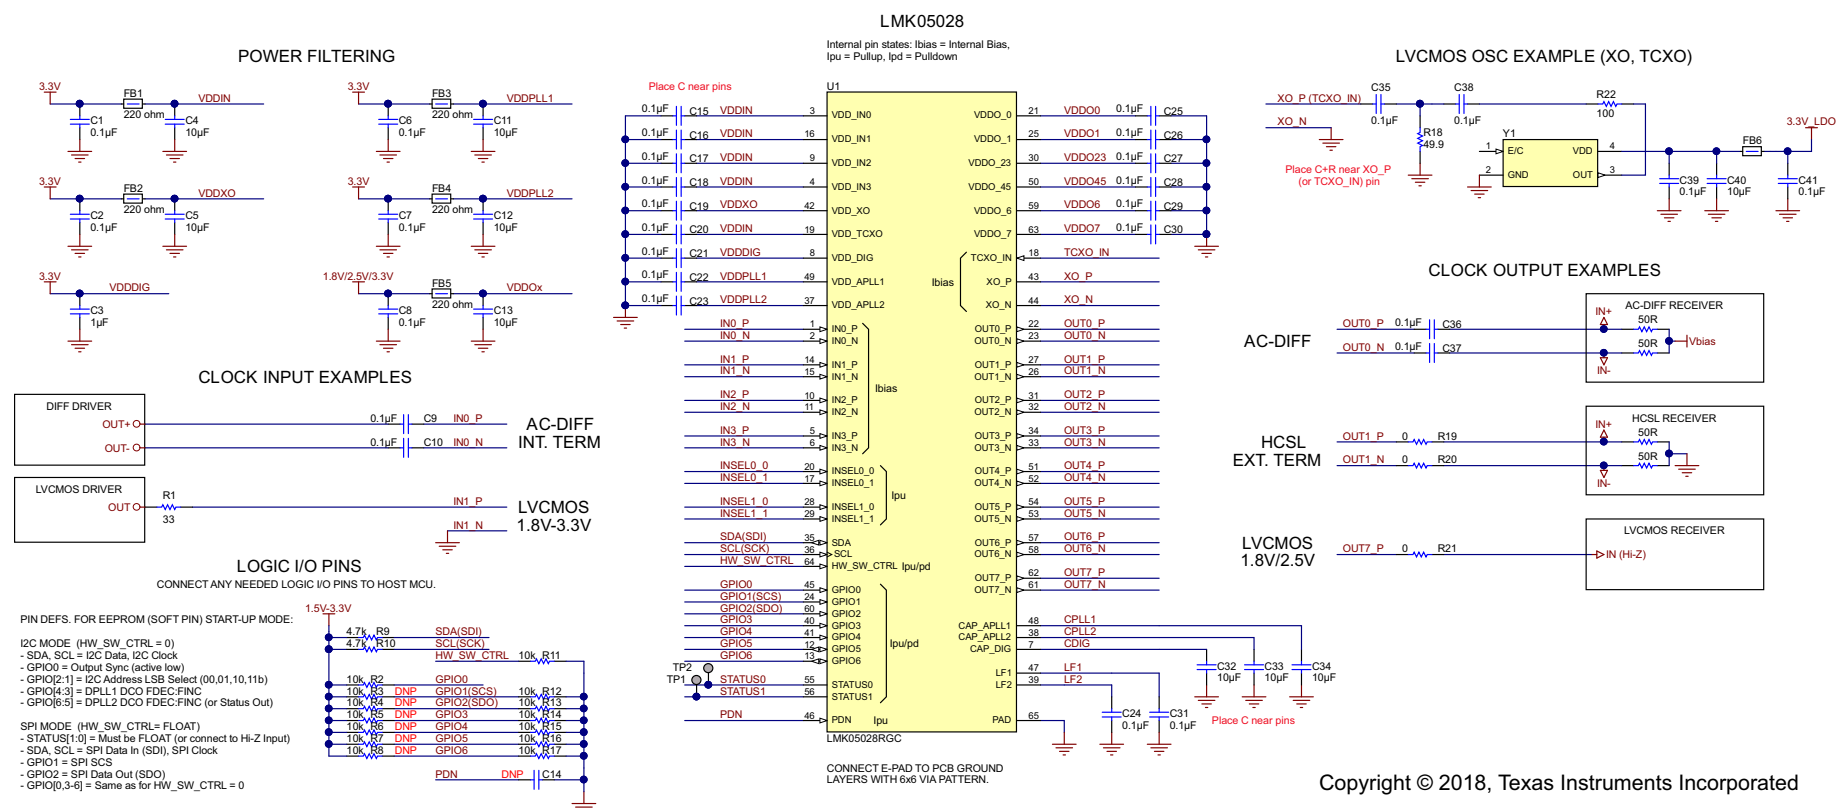

Figure 45. Reference Schematic Example
Figure 45 shows a reference schematic to help implement the LMK05028 and its peripheral circuitry. Power filtering examples are given for the core supply pins and independent output supply pins. Single-ended LVCMOS, AC-coupled differential, and HCSL clock interface examples are shown for the various clock input and output pins. An external LVCMOS oscillator is driving a AC-coupled voltage divider network as an example to interface a 3.3-V LVCMOS output to the XO or TCXO input pin. The required external capacitors with the recommended values are shown. The logic I/O pins with external pullup or pulldown resistor options set the default input states. The I2C or SPI pins and other logic pins can be connected to a host device (not shown) to program and control the LMK05028 and monitor its status. This example assumes the device will start up from EEPROM mode with an I2C interface (HW_SW_CTRL = 0).
- For a 3.3-V LVCMOS XO, follow the OSC clock interface example in Figure 45. Power the OSC from a low-noise regulator.
- For a 3.3-V LVCMOS TCXO/OCXO, follow the OSC clock interface example in Figure 45.
- Reference inputs: Follow the LVCMOS or differential clock input interface examples in Figure 45.
- Clock outputs: Follow the single-ended or differential clock output interface examples in Figure 45.
- Power all VDD pins with proper supply decoupling and bypassing connect like shown in Figure 45.